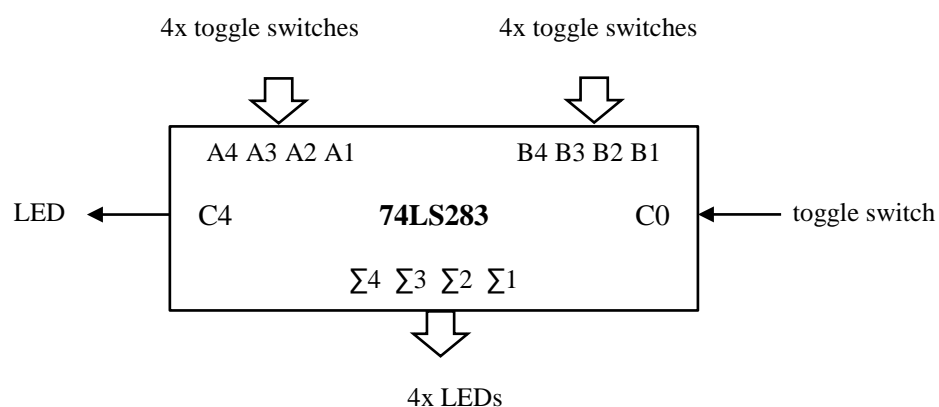
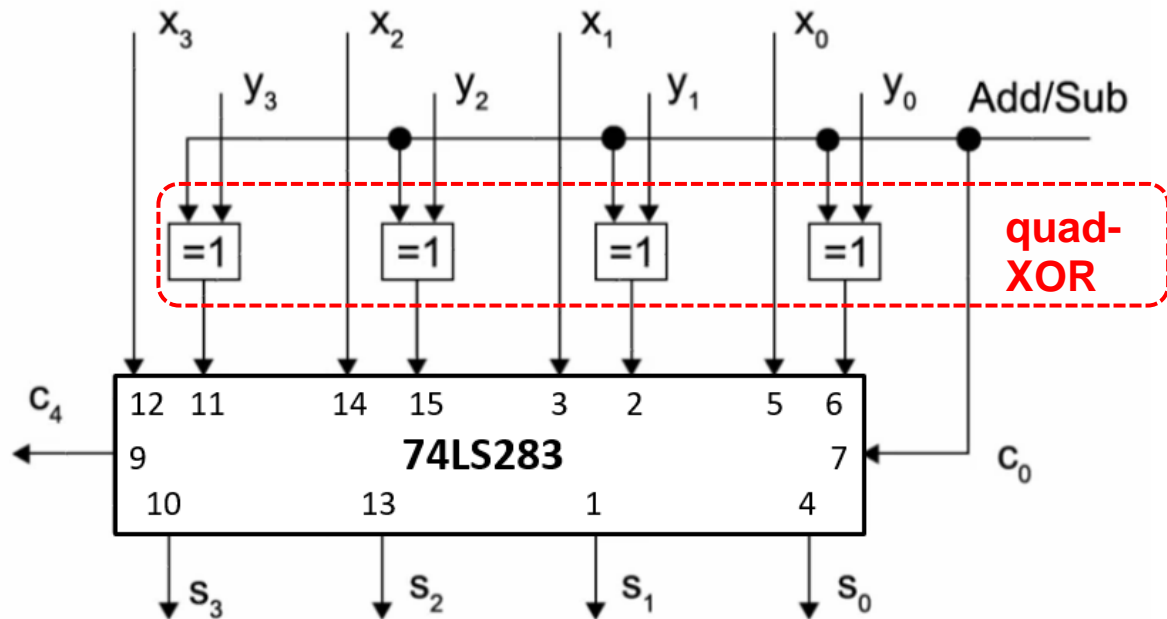

Figure 3: 4-bit binary adder with toggle switches and LEDs connected
Figure 4: 4-bit adder/subtractor circuit
- 5.1.1 Figure 3 shows the experiment setup. Refer to steps 1-6 of *Lab 2 circuit connection guide.pdf* for a pictorial guide.
- 5.2.1 The next few steps will modify the circuit you have built in section 5.1 such that it can perform 2's complement addition ($X+Y$) and subtraction ($X-Y$), as shown in Figure 4. For your convenience, the pin numbers on the 74LS283 device are provided.
- 5.2.3 Remove the connections between the toggle switches and inputs B4,B3,B2,B1 in Figure 3. Instead, connect these toggle switches to one input of each of the four XOR gates on the 74LS86 IC. These form the inputs y_3, y_2, y_1, y_0 in Figure 4.
- 5.2.4 Connect the other input of each of the four XOR gates together, and connect it to the same toggle switch that has been earlier connected to C0 in section 5.1 (see Figure 3). This forms the Add/Sub input in Figure 4.